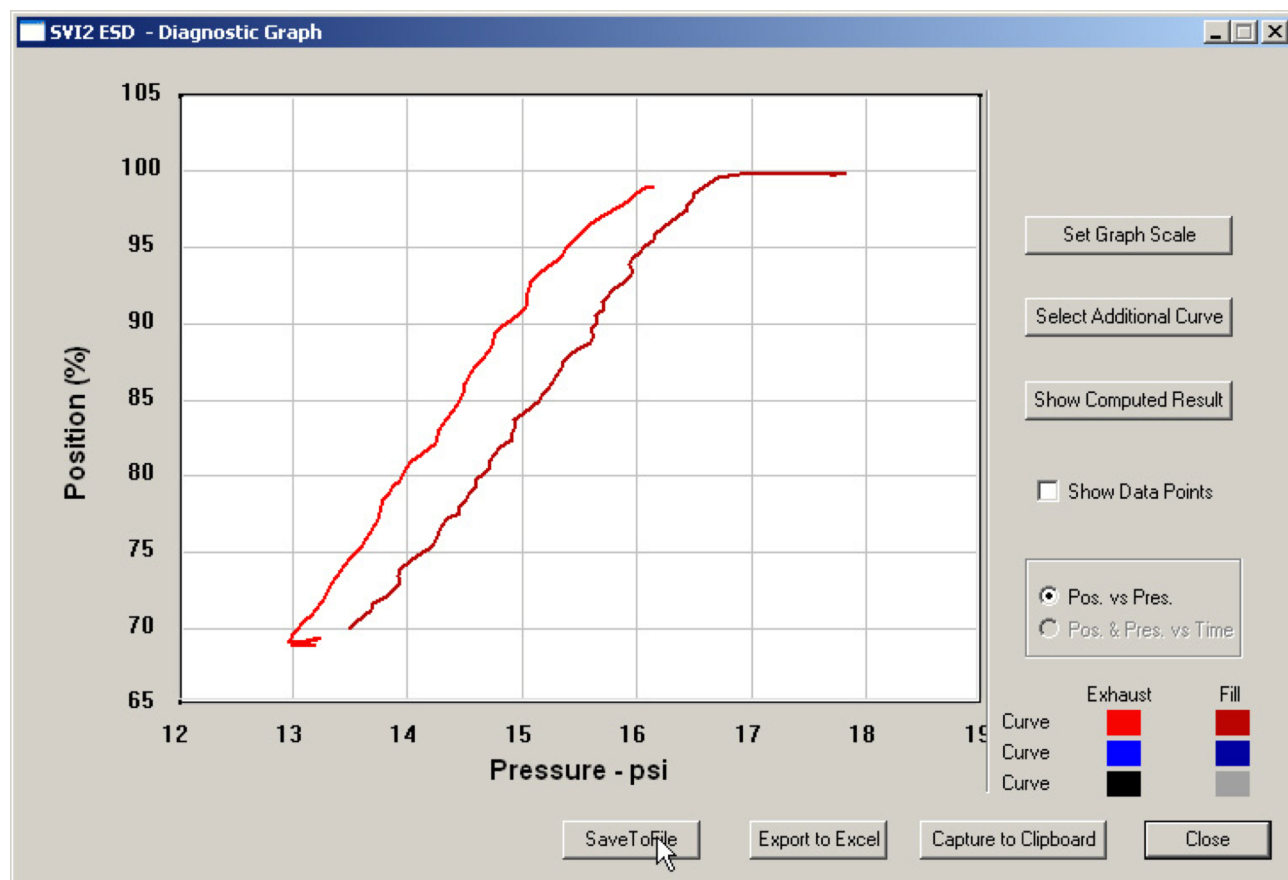

Figure 222 - Selecting Save To File
1. Select **Save To File** (Figure 222).